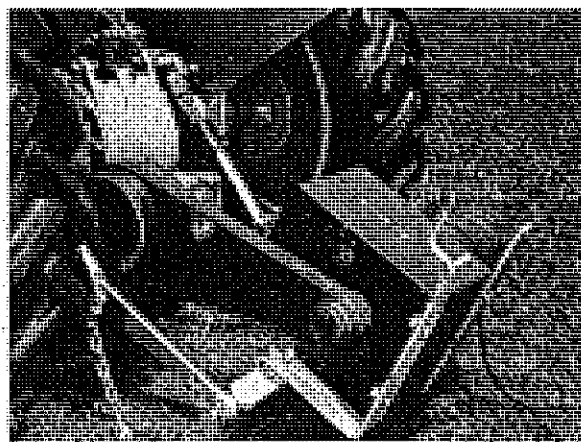

Fig. 1. Welder mounted on draw bar of tractor. Driven by pulley take-off.
- a. Welder mounted to 3 point tractor draw bar. (See Fig. 1) -- Mount welder on steel plate or framework which can in turn be bolted to the draw bar of tractor. If draw bar is raised and lowered hydraulically, this adjustment can be used to set the tension on the pulley belts. If welder pivots on draw bar, its weight should be sufficiently over-hung so as to provide belt tension. Belts should be kept just tight enough to prevent them from slipping when you weld with the largest size electrodes. (See paragraph on Belt Tension.) If draw bar is fixed, use bolt adjustment furnished with welder to tighten belts.